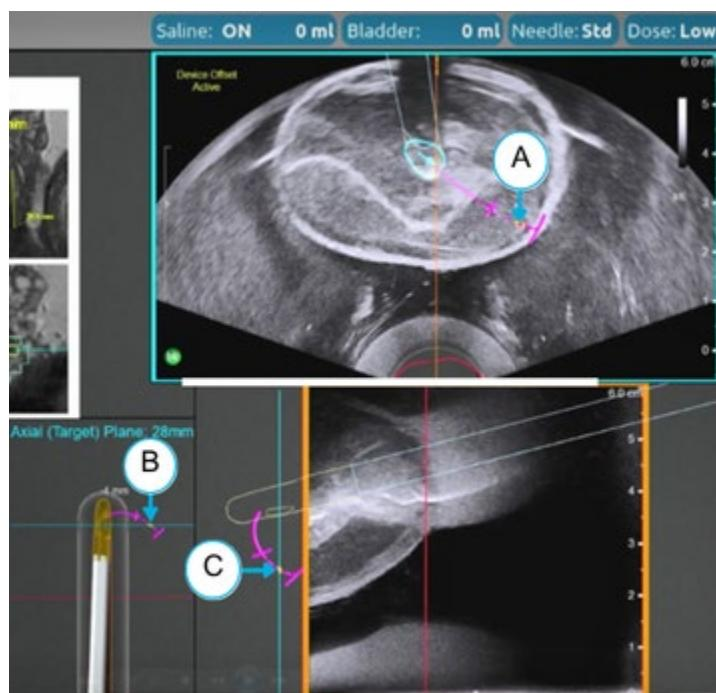

Figure 12-12: Projected Needle Path Crossing the Axial Plane
2. Move the Delivery Device to the treatment (Axial) plane previously established with positioning of the ultrasound probe. In the Axial (**A**), Top-Down (**B**), and Sagittal (**C**) views, the NGS projected Needle path will be seen crossing the blue Axial Plane (**Figure 12-12**).